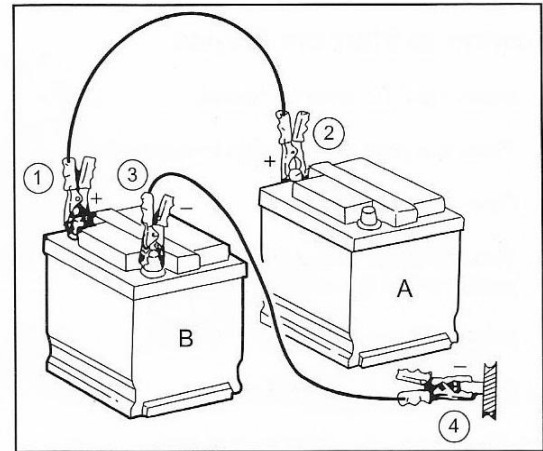

Fig. 34
If the tractor has a discharged battery (A, Fig. 34), it can be started with either a slave battery (B) or the battery of another vehicle. Follow the procedure described below.
4. Connect one end of the jump lead to the slave battery positive (+) terminal (1) and the other to the tractor battery positive (+) terminal (2).
5. Connect one end of the other jump lead to the slave battery negative (-) terminal (3) and the other end to the tractor engine block (4).